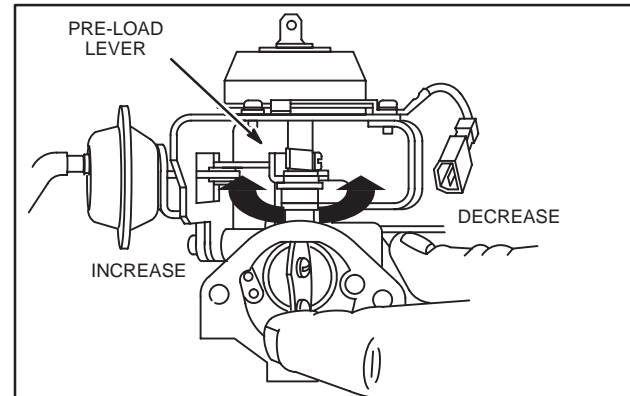

Fig. 52 – Adjusting Choke
3. Carefully bend pre-load lever, Fig. 52: